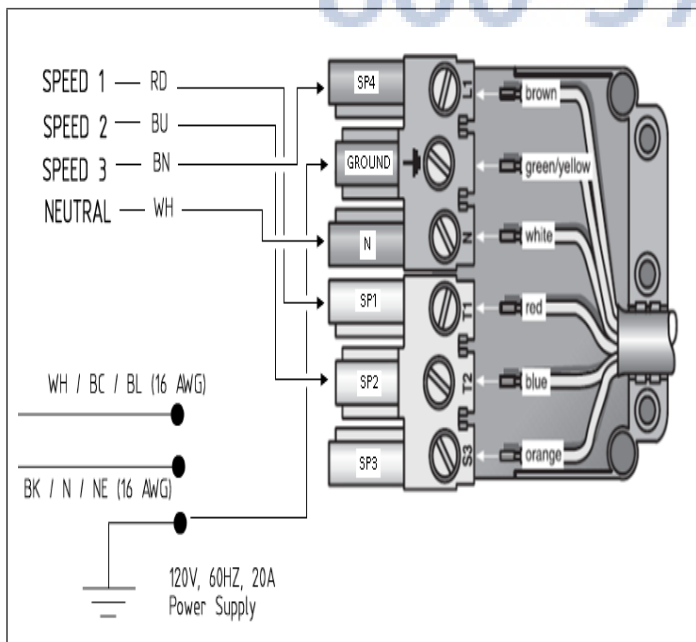

Figure 21: Wiring the Hood with a Remote Blower
4. Connect the power supply wires to the hood wires in the following order: black to black, white to white, and green wire to green ground screw on chassis. Use spring type wire nuts supplied. (Lost or missing wire nuts should only be replaced with: Spring type wire nuts, rated for a minimum of (2) # 18ga wires and maximum of (4) #14ga wires, UL & CSA rated to 600V and 302° F/ 150° C).
6. Run (5) wires (#14 AWG) in 1/2" (13mm) conduit from the remote blower to the second conduit connector.
7. Connect the remote blower to the pigtail wires (Step 6) as per Figure 21. Connect the remote blower green (ground) wire to the ground screw in the junction box. Refer to the blower installation instructions for further wiring details.